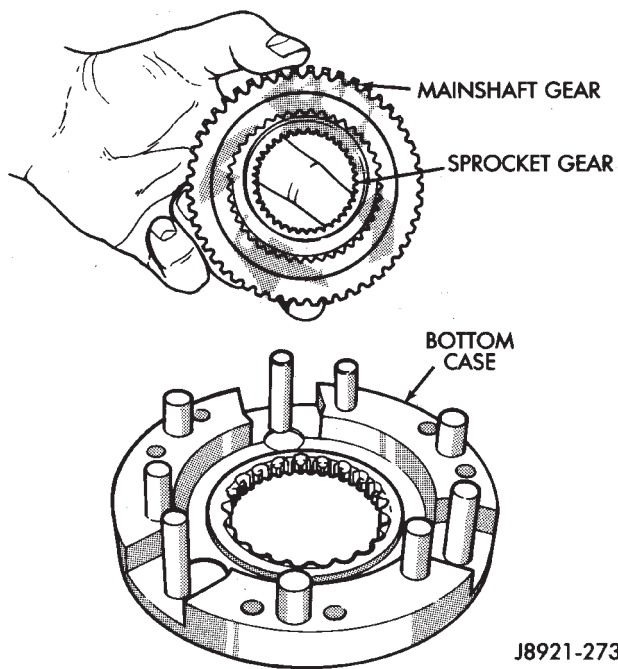

Fig. 35 Mainshaft and Sprocket Gear Removal
(50) Remove mainshaft and sprocket gears from bottom case (Fig. 35). Note gear position for reference before separating them.